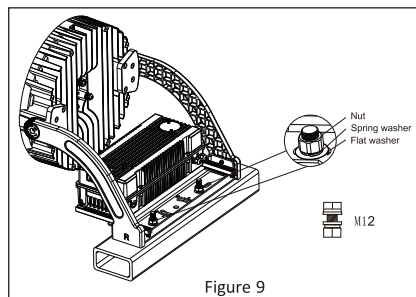

Figure 9
3. Install the luminaire on the crossbar and secure it with M16 bolts, nuts, lock washers and flat washers. **See Figure 9.**